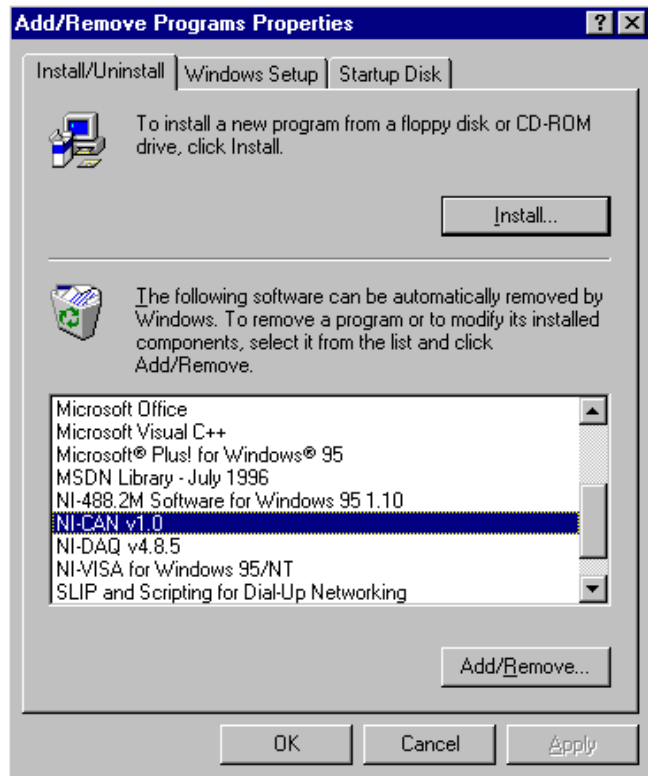

Figure A-2. Add/Remove Programs Properties Dialog Box
1. Run the **Add/Remove Programs** applet from the **Control Panel**. A dialog box similar to the one in Figure A-2 appears. This dialog box lists the software available for removal.